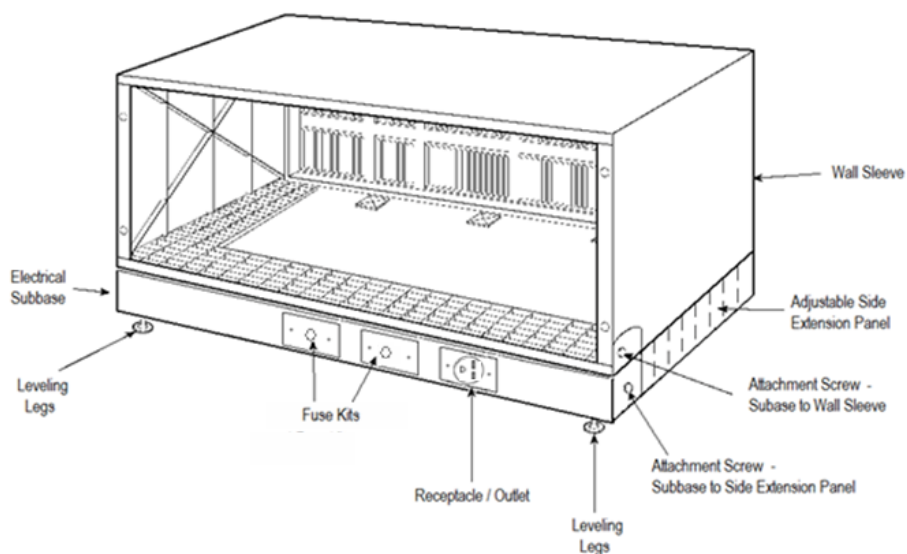

Figure 14 – Attach Subbase to Wall Sleeve
Step 14– Install subbase on PTAC wall sleeve per the installation instructions provided with the subbase. See Figure 14 for a completed installation.